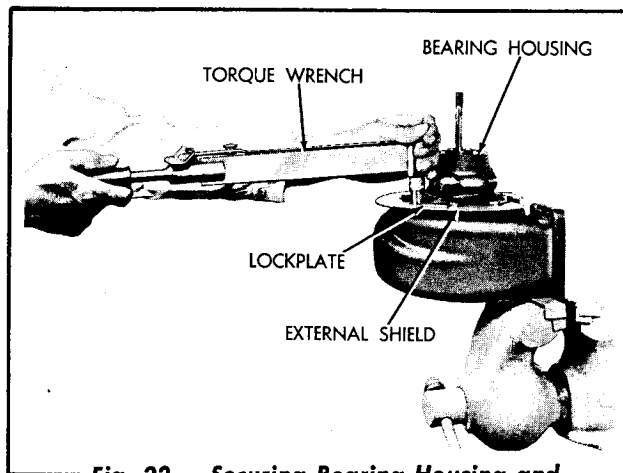

Fig. 22 — Securing Bearing Housing and External Shield
- d. Install capscrews and tighten to 17 lbs. ft. torque (Fig. 22). Use torque wrench adapter tool "M" to tighten cap screw under oil inlet boss. The adapter increases the effective length of the torque wrench, therefore, tighten only to a torque of 15 lbs. ft.